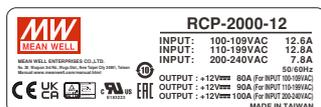

Figure1-1 Safety labels of RCP-2000
- ⊙ Please refer to the safety label on top of each unit before operating (Figure 1-1~1-3).